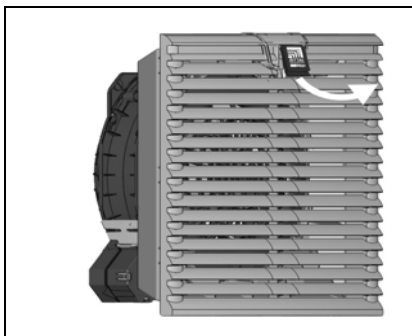

Fig. 6: Release the louvred grille
- First press the catch of the louvred grill (Rittal logo) up slightly with one finger (see fig. 6)